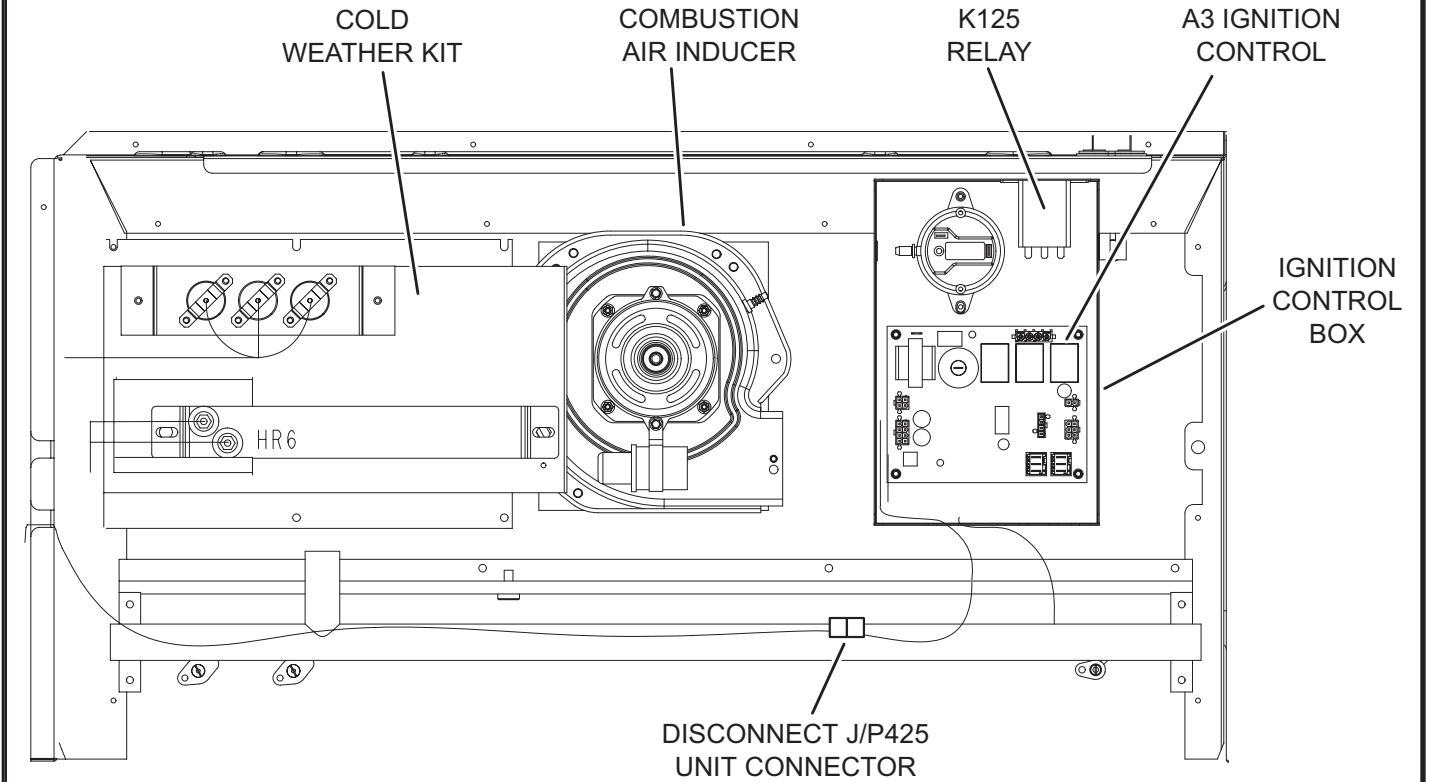

FIGURE 10
- 4 - Install heater assembly in heat section as shown in FIGURE 10. Use existing screws.
- 5 - Remove ignition control cover and install K125 as shown in FIGURE 10. Secure with #8 screws provided in kit.
- 6 - Disconnect unit J/P425 connectors. See FIGURE 10. Connect power harness J/P228 to J/P425. See FIGURE 11.